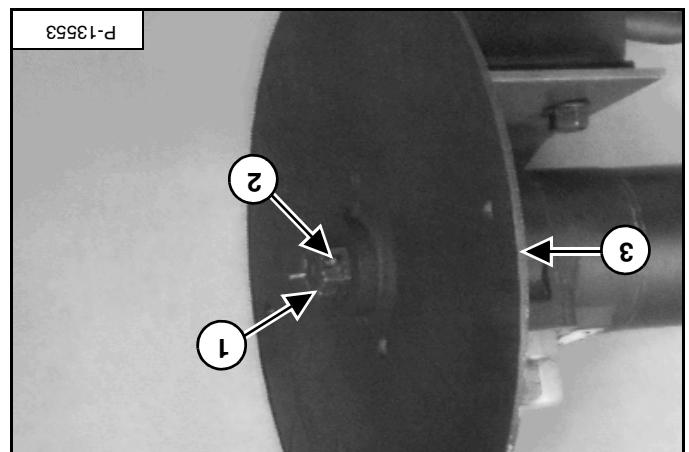

Figure 140
Installation: Install the brush mounting plate (item 3). Remove the brush mounting plate (item 3) [Figure 140]. Remove the castle nut (item 2) [Figure 140] from the motor shaft. Remove the cotter pin (item 1) [Figure 140].
Installation: Install the brush mounting plate (item 3). Remove the castle nut (item 2) [Figure 140] to 217 - 312 N·m (200 - 230 ft-lb) torque. Install the cotter pin (item 1) [Figure 140].